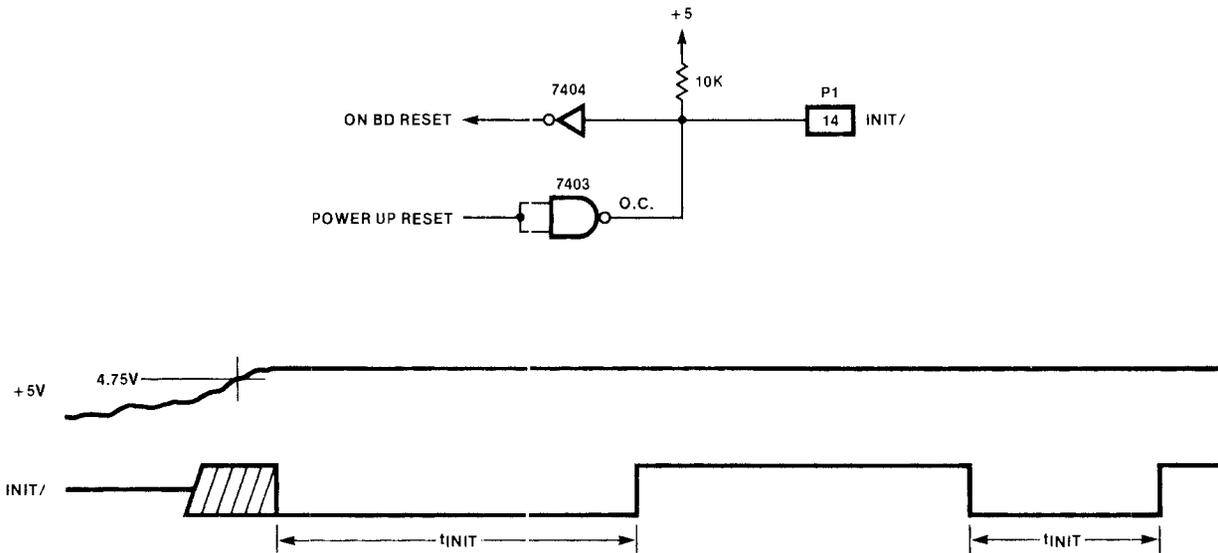

Figure 5-5. Initialize Logic
**5.1.1.4 INITIALIZATION** The initialize signal (INIT/) puts the system into a known state of operation. It consists of two parts; a power up reset source and a bus receiver for INIT/ as shown in Figure 5-5. The power up reset circuit can be an RC network into a hysteresis receiver. The time from +5 turning on until the hysteresis input reaches VIH should exceed 500ms after all the power supplies are within spec. The output of the hysteresis gate is buffered by an open collector driver and connected to the MULTIBUS INIT/ pin. The bus master must also receive the INIT/ through a buffer to reset itself.